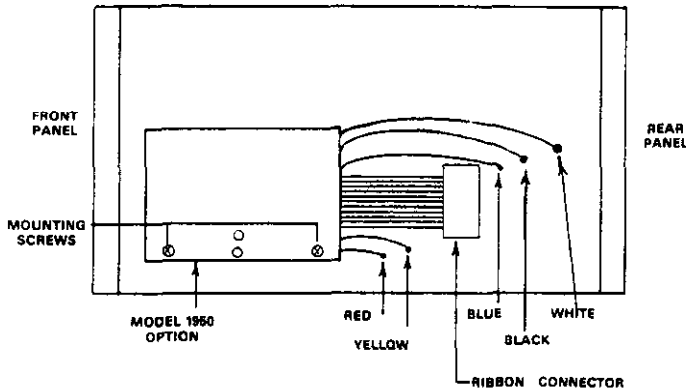

Figure 7-1. Model 1950 Installation
- Position the Model 1950 on top of the shield as shown in Figure 7-1. Line up the holes at the outer edge of the Model 1950 with the holes in the shield.
- Plug the ribbon connector into the DIP receptacle on the mother board next to the power transformer. Be sure that pin 1 of the connector lines up with pin 1 of the receptacle as shown in Figure 7-1.